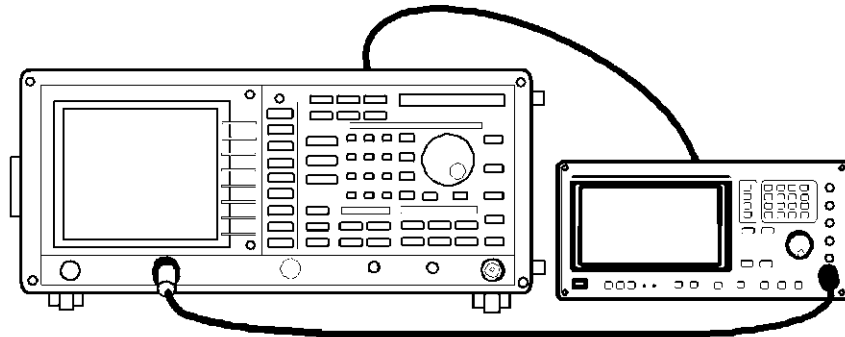

Figure 5-31 Setup for Checking the Linearity Error (External Mixer Mode)
1. Connect the instruments as shown in Figure 5-31.